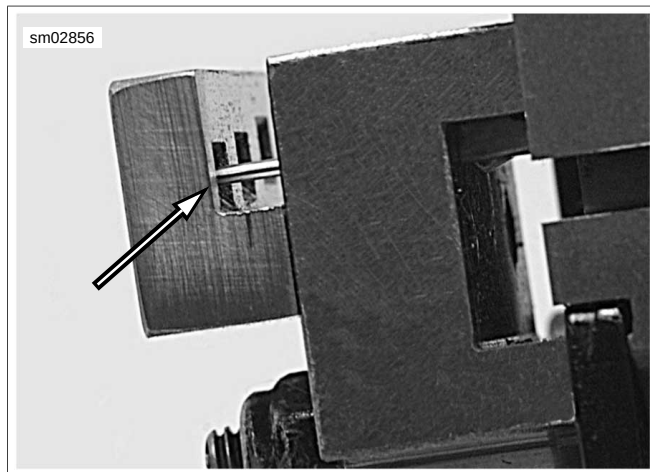

Figure A-51. Pin Terminal against Pin Locator Bar
- Pin Terminal:** See Figure A-51. The tip of a pin terminal passes through the socket locator bar and stops in the notch in the face of the pin locator bar.